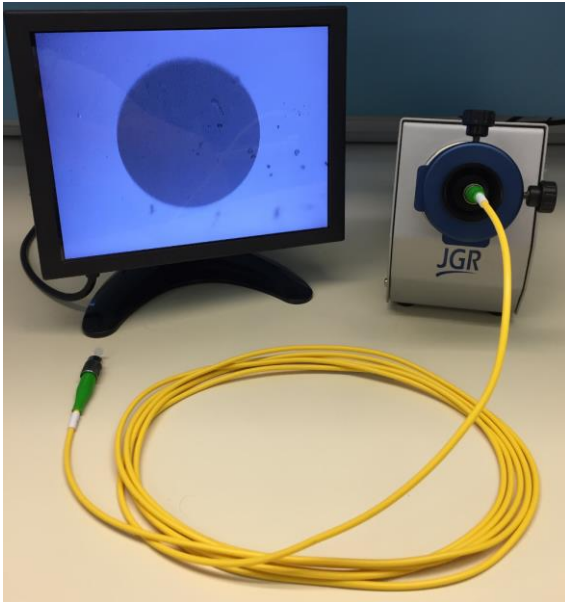
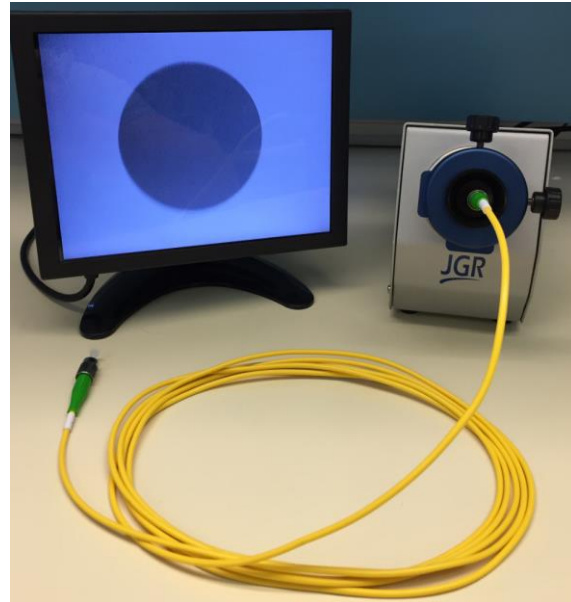

Figure 44: Dirty connector end-face inspection using JGR's CS400K
Figure 45: Clean connector end-face inspection using JGR's CS400K
1. Inspect all connectors before each mating and if needed, clean with a lint-free wipe and/or IPA. Figure 44 shows a dirty connector requiring cleaning. Figure 45 shows a clean connector ready to be mated.